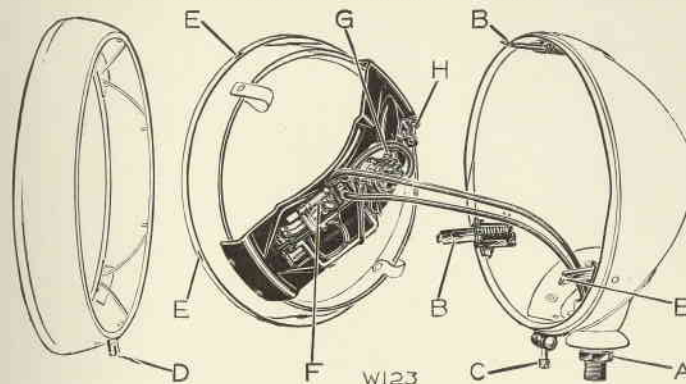

Fig. 13.
The lamps are universally mounted which allows the beams of light to be adjusted to the best advantage. To alter the position of the lamps, slacken the mounting nut "A," Fig. 13 and adjust the lamp to the position desired, afterwards tightening up the lock nut securely.
To remove the lamp front for bulb replacement or focussing, slacken the screw (C) Fig. 13 on the underside of the lamp body and swing aside clear of locating slot (D) and the rim can then be withdrawn. The lamp reflector houses the bulb holder and bayonet, and can be removed by pulling forward clear of the spring loaded reflector supports (B). To focus the bulbs, slacken screw (G) and move bulb to desired position. Tighten screw clip securely after focussing.